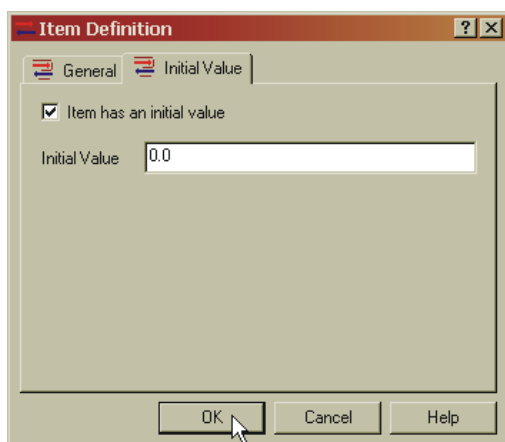

FIG. 207: ITEM DEFINITION
Step 27. The Initial Value page appears. (See Fig. 207)